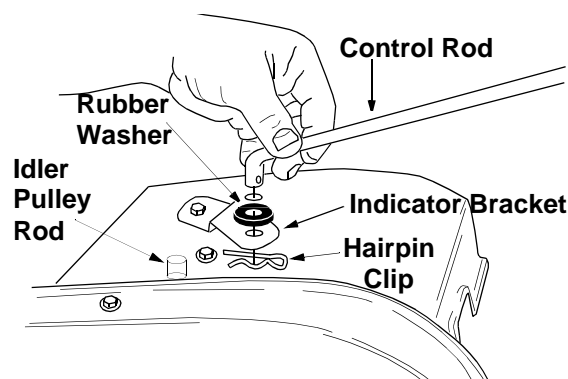

Figure 5
- Insert the shorter, (angled), end of the control rod through the indicator bracket on the shift cover and secure with hairpin clip that was removed in step 1. See Figure 5.